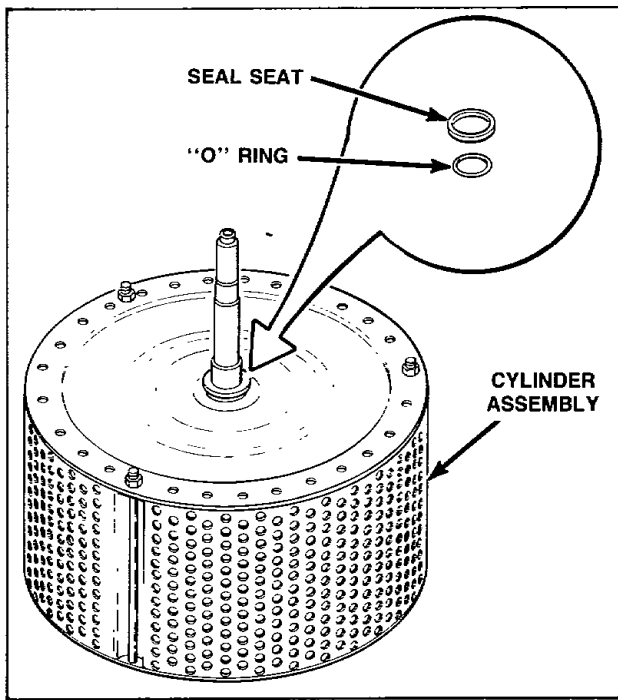

Figure 28
- b. Carefully pry the water seal seat off the cylinder shaft, *Figure 28*.
- c. Remove the "O" ring from cylinder shaft, *Figure 28*.